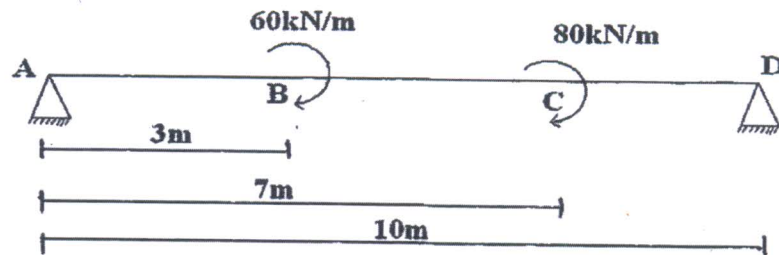

Fig. 5
4. (a) Draw shear force and bending moment diagrams for the beam as shown in Fig 5. [9]